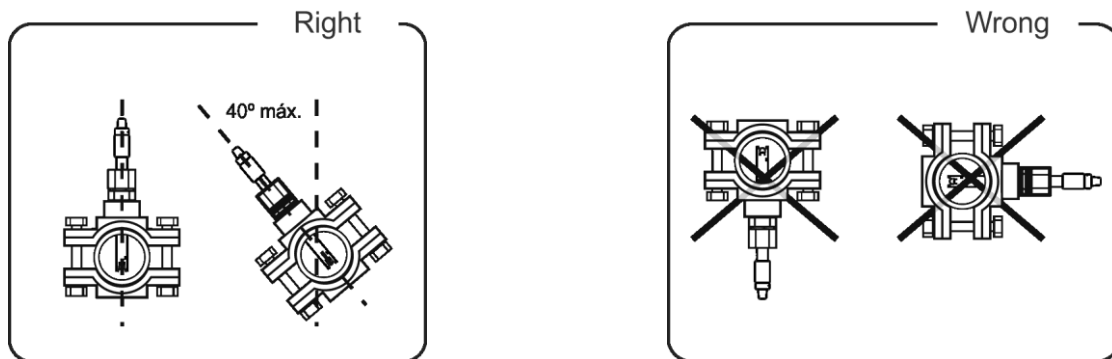

Fig. 9
- **Install always the electrodes vertically or with a maximum inclination of 40°.** (Fig. 9).